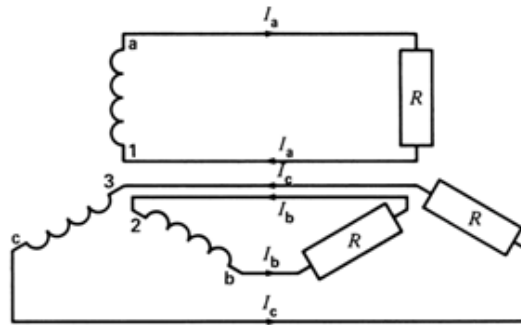

Figure 8.8: Six-Wire Three-Phase System
*Six-wire System:* This is the original representation of a three-phase generator shown in figure 8.7(a). The equivalent circuit is shown in figure 8.8.